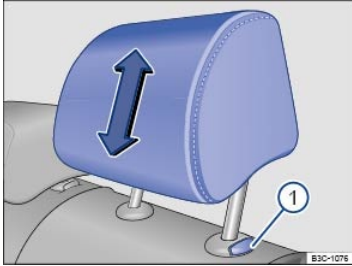
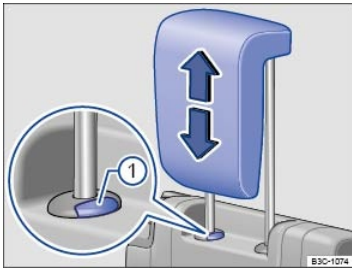

Fig. 93 Removing the second row head restraints.
Fig. 94 Removing the third row head restraints.
- Push button ⇒ Fig. 93 ① in and hold it.
- Press button ⇒ Fig. 94 ① while pulling out the head restraint completely.
- Push the head restraint down while pressing button ⇒ Fig. 93 ① or ⇒ Fig. 94 ①.